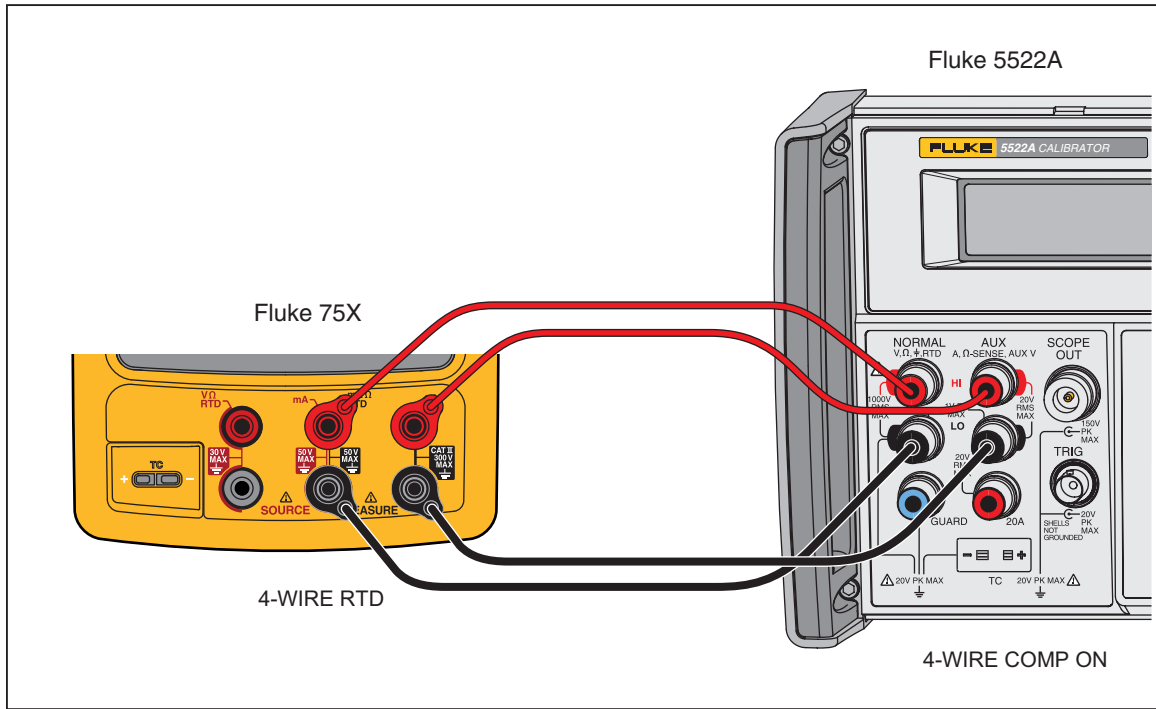

Figure 11. Four-Wire RTD Measure Verification Connections
1. Connect the UUT to the 5522A as shown in Figure 11. Use a four-wire connection and four-wire compensation.
2. Set the UUT to the RTD measure function, Pt100 (385), ITS-90 scale, and four-wire termination.
3. Set the 5522A to RTD, Pt100 (385) at -180 °C, ITS-90 scale, and comp four-wire.